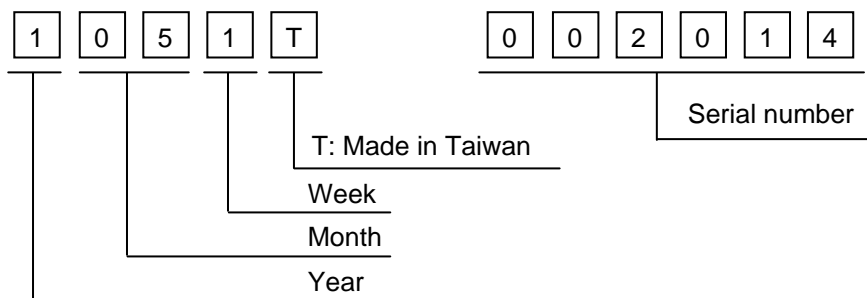

Fig 14.1
- 1) The lot mark is showing in Fig.14.1. First 4 digits are used to represent production lot, T represented made in Taiwan, and the last 6 digits are the serial number.